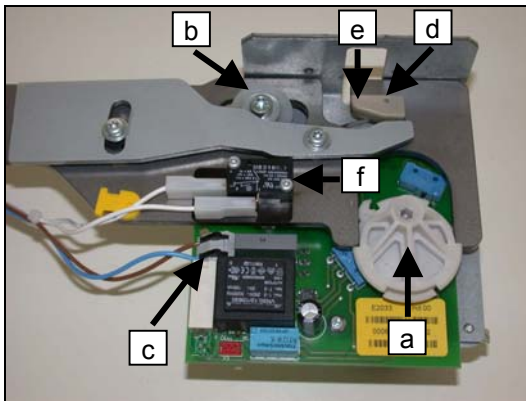
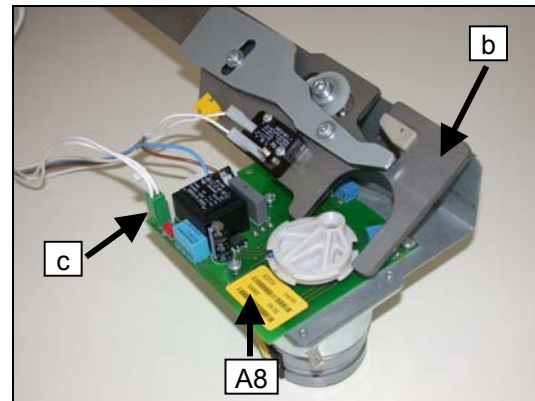
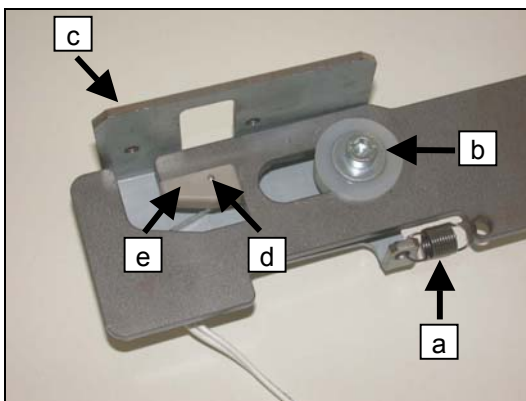

Fig. 16
Fig. 17
Fig. 18
- Use the hexagon pin driver to turn the eccentric disc (Fig. 16, a) until the hexagon socket points upwards.
- Undo the hexagon socket screw (Fig. 16, b).
- Lift the connecting rod (Fig. 17, b) and pull it out of the eccentric disc (Fig. 16, a), see Fig. 17.
- Pull the plug (Fig. 17, c) on the motor-lock unit (Fig. 17, A8). Then press both black lock clips (Fig. 16, c) on the terminal strip upwards and pull out both cables.
- Suspend the tension spring (Fig. 18, a) on one side.
- Undo the hexagon socket screw (Fig. 18, b).
- Exchange the angle support (Fig. 18, c).
- Push out the steel pin (Fig. 16, Fig. 18, d) from the sliding block (Fig. 16, Fig. 18, e) with a piercer.
- Remove the sliding block (Fig. 16, Fig. 18, e).
- Mount the new sliding block (Fig. 16, Fig. 18, e).
- Drive the steel pin (Fig. 16, Fig. 18, d) into the borehole of the sliding block (Fig. 16, Fig. 18, e) with a hammer.
- Pull out both cables from the microswitch (Fig. 16, f).
- Replace the microswitch (Fig. 16, f).